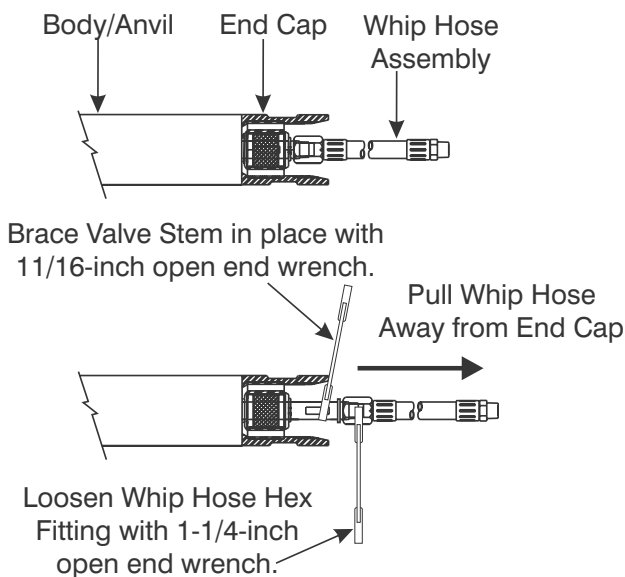

Figure 11-15. Access and Hold the Valve Stem flats in Position
2. By hand, pull the Whip Hose away from the End Cap (8) until the flats of the Valve Stem (5) are accessible as shown in Figure 11-15.
5. Thread the larger hex fitting of the Whip Hose (10) onto the threads of the Valve Stem. Tighten the fitting finger tight.
6. By hand, pull the Whip Hose away from the End Cap (8) until the flats of the Valve Stem (5) are accessible as shown in Figure 11-15.